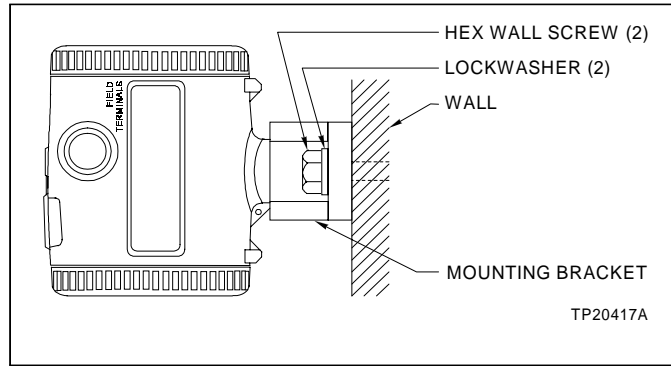

Figure I4-2. Wall Mounting
4. Place the transmitter, with mounting bracket attached, so that the two mounting bracket holes align with the mounting holes in the wall (Fig. I4-2).
5. Place a 0.375 lock washer over each of the hex wall screws (Fig. I4-2).
6. Insert a hex wall screw through each of the mounting bracket holes and into the mounting holes in the wall and use the ratchet with $\frac{1}{16}$ -inch socket to tighten each of the hex wall screws (Fig. I4-2).